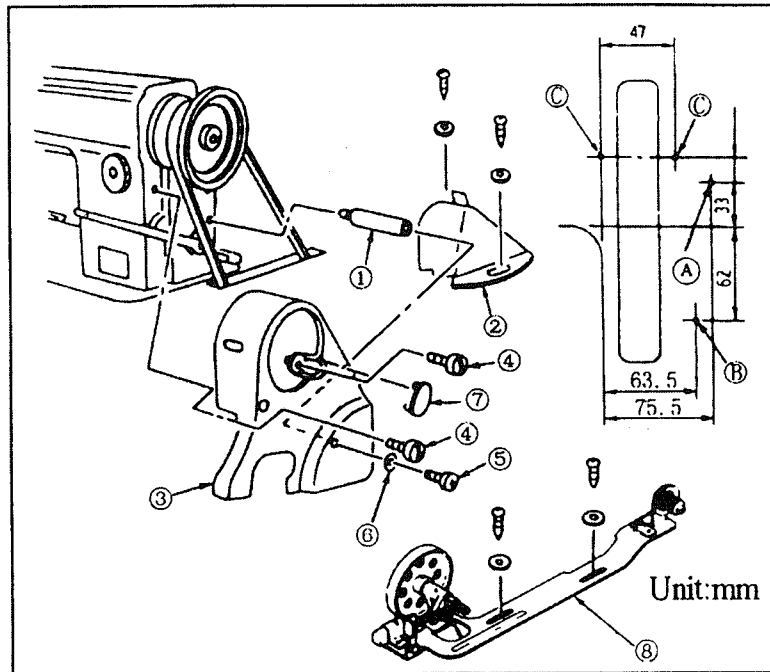
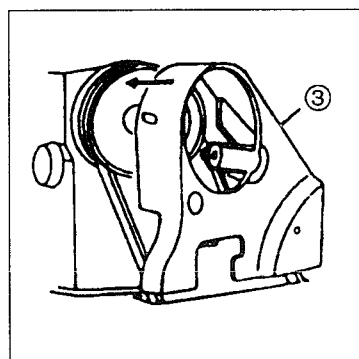
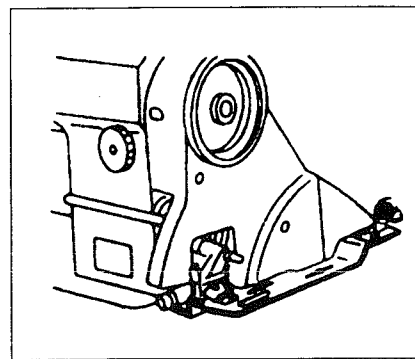

Fig.23
Fig.24
Fig.25
17.INSTALLING THE BELT COVER AND THE BOBBIN WINDER (Fig.23, Fig.24, fig.25)